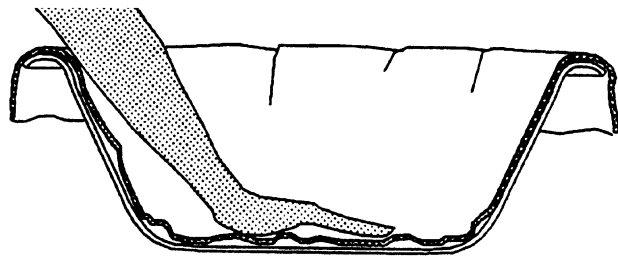

Figure 10.
- a. When separating large solution basins, be sure to fully open the surgical towel and “pie-crust” it well into the bottom basin before applying a basin on top. The moisture that will be formed between them will cling to the inner surface of that bottom pan, and the towel will absorb it for more efficient drying (Figure 10).